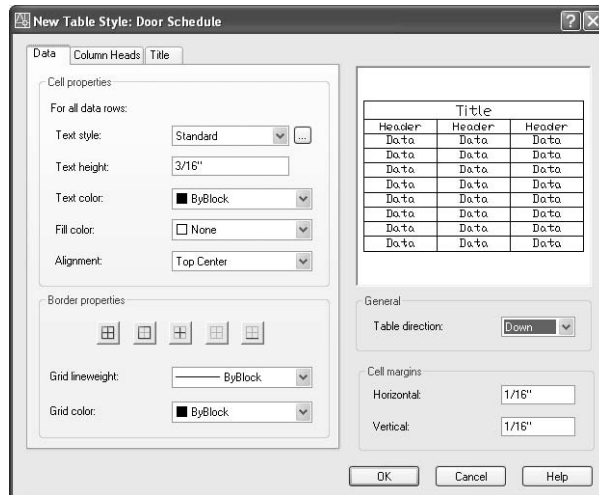

FIGURE 10.44: The New Table Style dialog box
7. Type Door Schedule to create a new table style name and click Continue. The New Table Style dialog box opens with Door Schedule in the title bar (see Figure 10.44). The new style we are defining will be like the Standard style with the changes we make here. Notice the three tabs at the top: Data, Column Heads, and Title. They refer to the three parts of the sample table that's displayed in the preview window to the right. You can specify text and line characteristics for each of the three parts. Be sure the Data tab is active and on top.